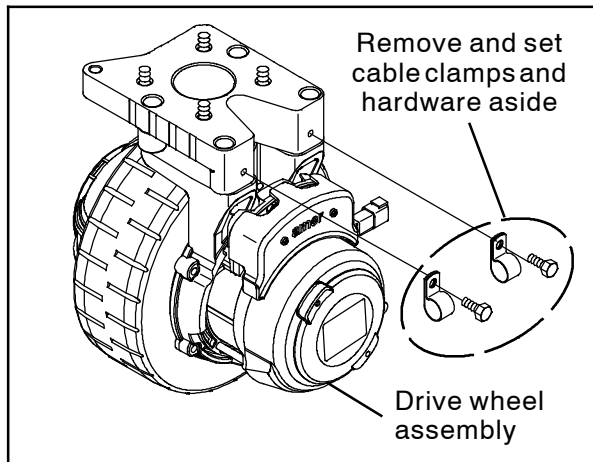
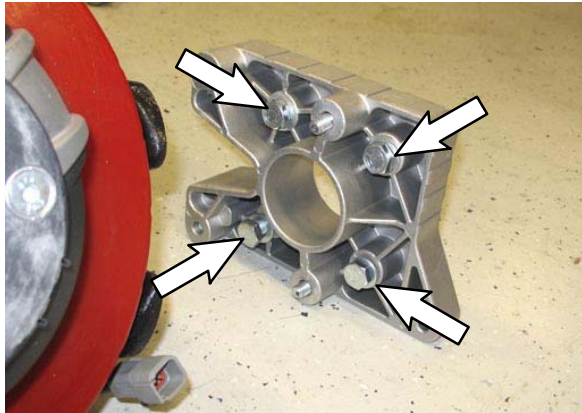

FIG. 1
FIG. 5
1. Remove the cable clamps from the drive wheel assembly. Set cable clamps and hardware aside. (Fig. 1)
7. Remove the aluminum spacer from the new drive wheel assembly (1) and remove the four M12 x 1.75 hex screws and flat washers from the aluminum spacer. Discard the four M12 x 1.75 hex screws and flat washers. (Fig. 5)
8. Install the four M12 x 1.50 hex screws and flat washers removed from the old drive wheel assembly into the aluminum spacer removed from the new drive wheel assembly (1). (Fig. 5)
9. Use the four socket head screws to reinstall the aluminum spacer onto the new drive wheel assembly (1).
10. Install the new drive wheel assembly (1) onto the machine.
12. Insert the main wire harness into the cable clamp and install the cable clamps onto the drive wheel assembly (1). (Fig. 1)